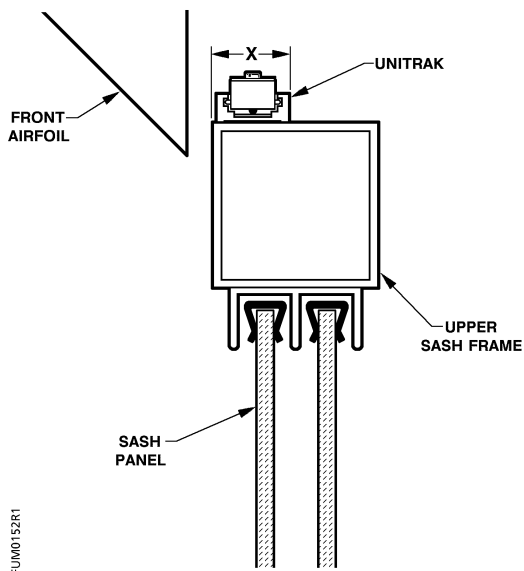
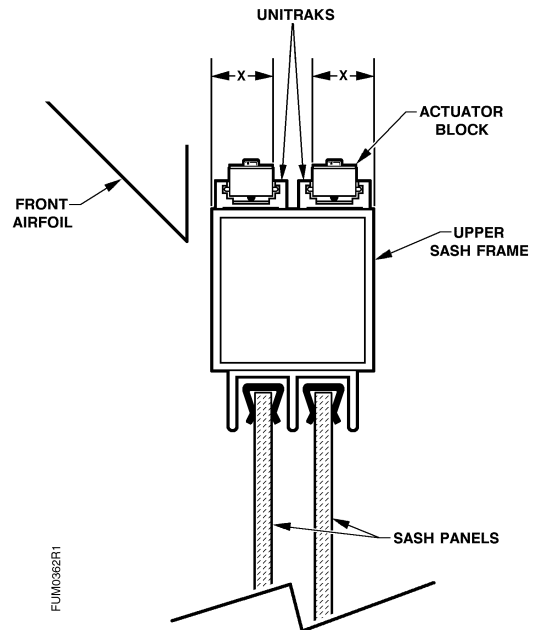

Figure 17. Linkage Clearance Measurement.
Figure 18. Linkage Clearance Measurement for Dual UniTrak sensors.
3. Measure the distance from the edge of the sash frame to the far edge of the actuator car = X (Figure 17 and Figure 18).